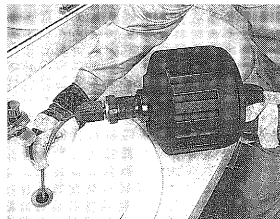

Figure 1
- 1 For best results it is recommended that the machine is positioned within 2 feet of the drain. (see Fig. 1)